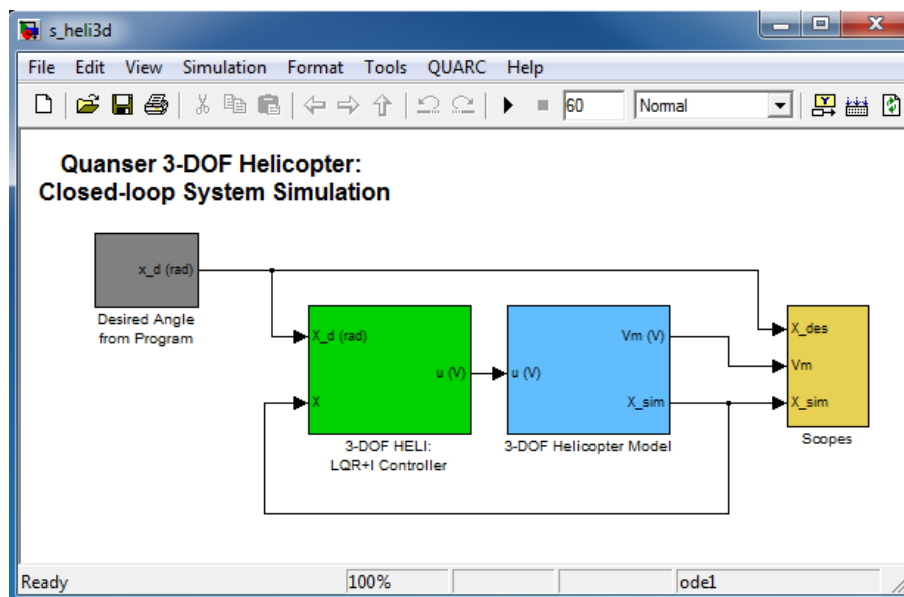

Figure 5.1: Simulink model *s_heli3d.mdl* used to simulate closed-loop response of 3 DOF Helicopter .
1. Open Simulink model *s_heli3d.mdl* shown in Figure 5.1.